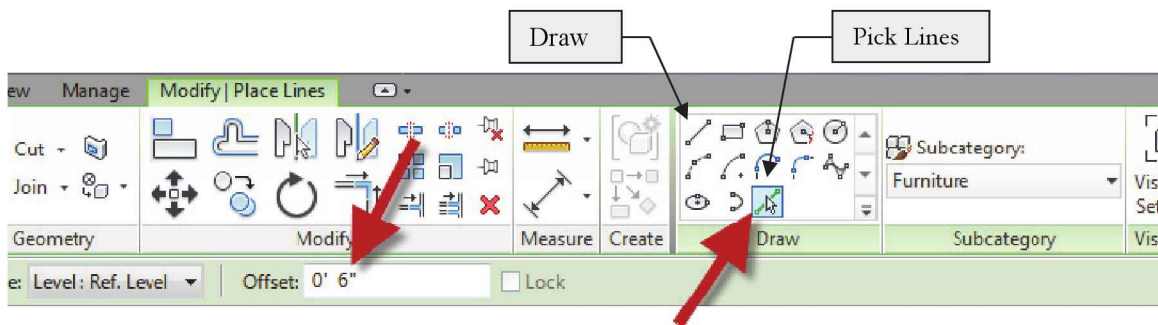

FIGURE 4-2.7 Options Bar: options for Model Lines in Pick Lines mode
22. Select the **Pick Lines** icon on the *Ribbon* (Figure 4-2.7).
Note that the *Pick Lines* icon toggles you from *Draw* mode to *Pick Lines* mode. The *Pick Lines* mode allows you to use existing linework to quickly create new linework. You should notice the available options on the *Options Bar* have changed after selecting *Pick Lines*; you can switch back by selecting any of the other *Draw* icons on the *Ribbon* (Figure 4-2.7).
23. Enter **0' 6"** for the *Offset* distance (Figure 4-2.7).
TIP: Make sure you entered the correct offset distance in the previous step (Figure 4-2.7).